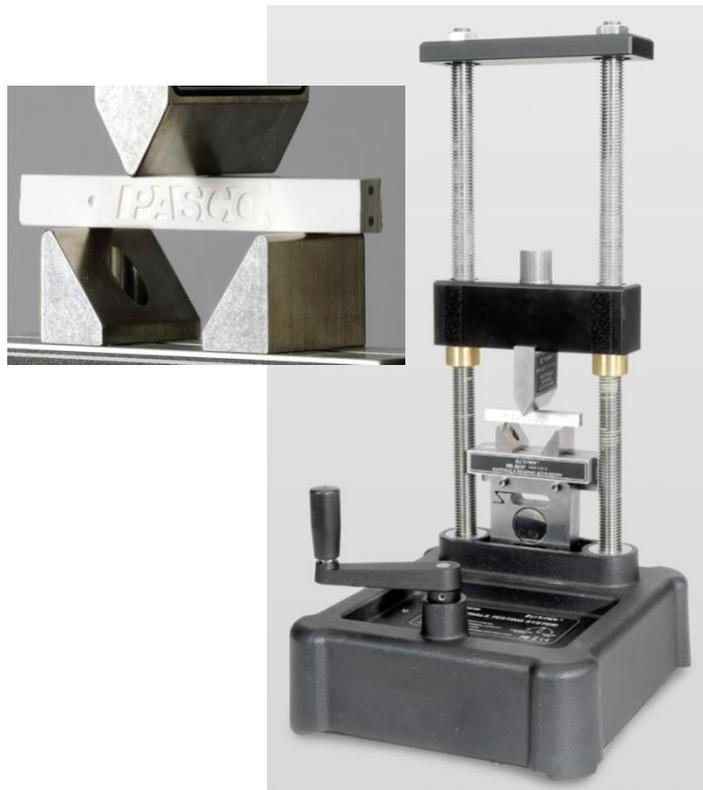

Figure 1: Three-point Bend Test
A Three-Point Bend Test is performed on Plaster of Paris cast beams as shown in Figure 1. As a downward force (F) is applied in the middle of the beam, the flex (Δx) is recorded. The ratio ($F/\Delta x$) is measured directly from the slope of the F vs. Δx graph, and is used to calculate the Flexural Elastic Modulus for the material. The maximum load force at fracture is measured, and is used to calculate the Modulus of Rupture.
1. The ME-8237 Bending Accessory consists of two major parts: The upper load anvil and the lower base with the two support anvils. The load anvil sticks up through the cross-head and is held in place by the knurled cap nut. The base (for the support anvils) fastens directly to the load cell using the two cap screws as shown in Figure 1.
2. Each anvil is captured by the T-slot in the base, and their separation should always be adjusted so that the Load Anvil is centered between them. Use calipers to make this alignment as accurate as possible. Set the anvil spacing between 5 and 6 cm. Carefully measure the length (L) from the top of the camber on each anvil. You can also just measure between the vertical surfaces, and calculate L by including the 1.5 mm radius on each anvil. Record this value.
5. Place the beam across the support anvils as shown in Figure 1. Turn the crank counter-clockwise until the load anvil is *almost* touching the sample.